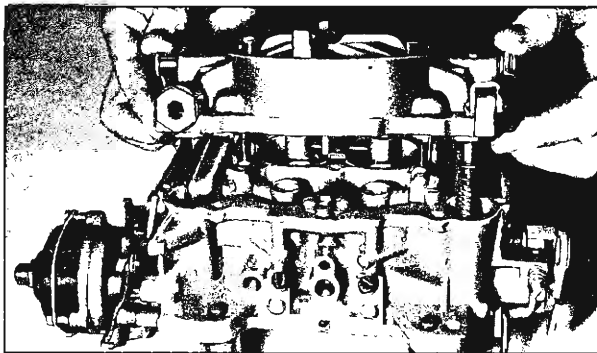

Fig. 29—Removing Bowl Cover
5. Remove fuel inlet fitting, gasket and strainer. Remove bowl cover screws and carefully lift cover from Body Section (fig. 29) to avoid damaging floats or pump plunger.